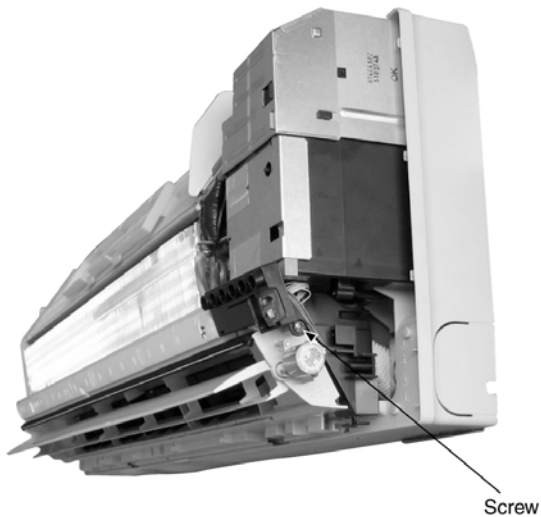

Fig. 4
- Remove the indicator complete screw, and then remove the Indicator Complete.(Fig.4)